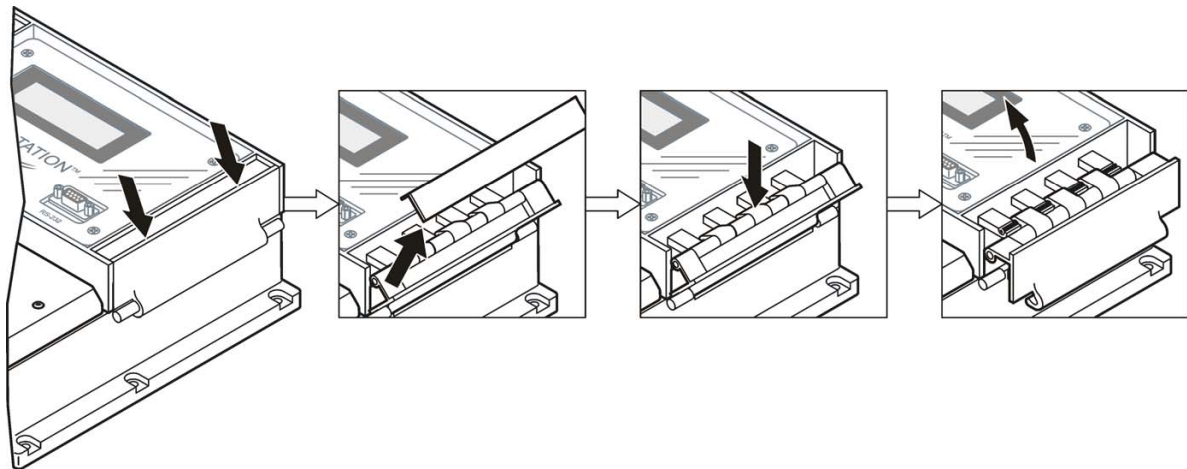

Figure 11 RS232 front panel access
1. Pull the side channel away from the side of the top cover (Figure 11).